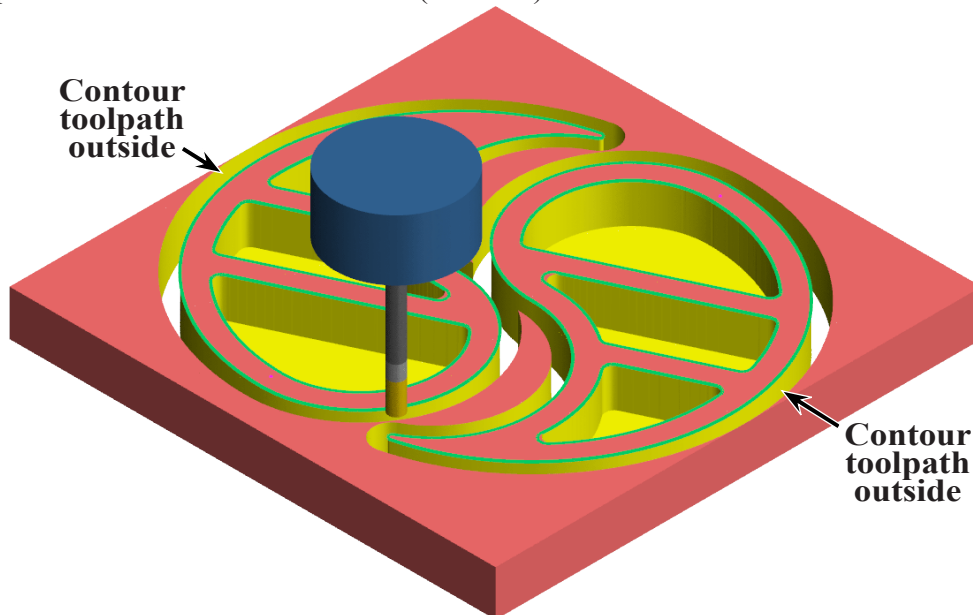

Fig. 82
Step 5. Confirm Contour toolpath is cutting outside green arc geometry, **Fig. 82**.